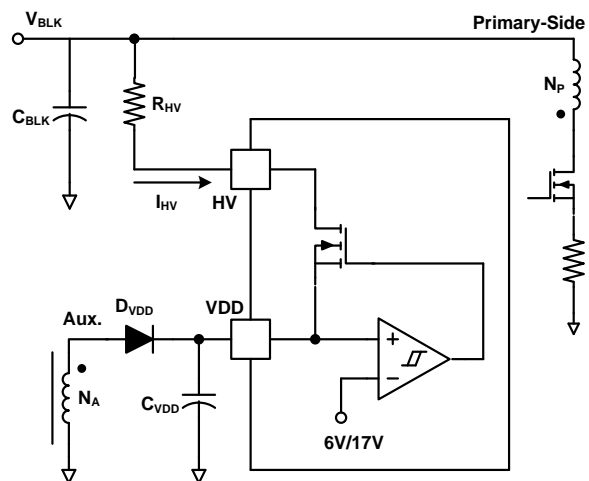
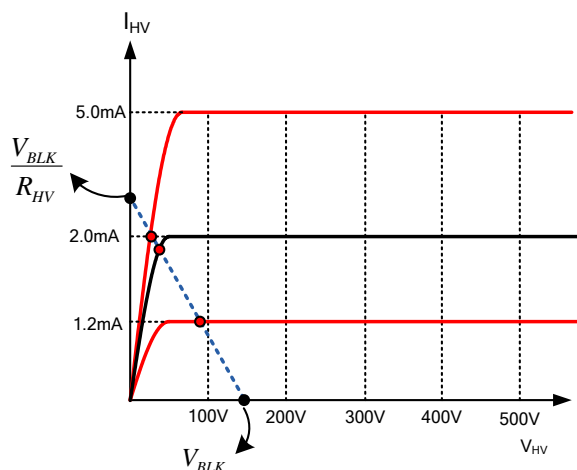

Figure 30. HV Startup Circuit
Figure 31. V-I Characteristic of HV Pin
Figure 30 shows the high-voltage (HV) startup circuit for FAN501A applications. The JFET is used to internally implement the high-voltage current source (see Figure 31 for characteristics). Technically, the HV pin can be directly connected to voltage (V_{BLK}) on an input bulk capacitor. To improve reliability and surge immunity, however, it is typical to use a ~ 100 k Ω resistor between the HV pin and bulk capacitor voltage. The actual HV current with a given bulk capacitor voltage and startup resistor is determined by the intersection of V-I characteristics line and load line, as shown in Figure 31.